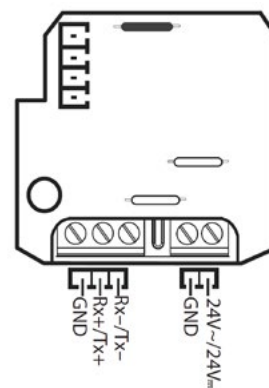

Fig. 6
- for the 24Vac/Vdc models see Fig. 6; make sure the polarity (24V, GND) is correct for direct current power supply;